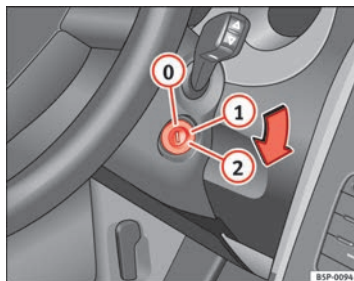

Fig. 117 Ignition key positions
In this position ⇒ fig. 117 the ignition and the engine are OFF and the steering may get locked.
- Turn the ignition key to position ⇒ fig. 117 ①. The indicator lamp will light for engine pre-heating.
- When the warning lamp turns off, turn the key to position ② to start the engine. Do not press the accelerator.
- Turn the ignition key to position ⇒ fig. 117 ①.